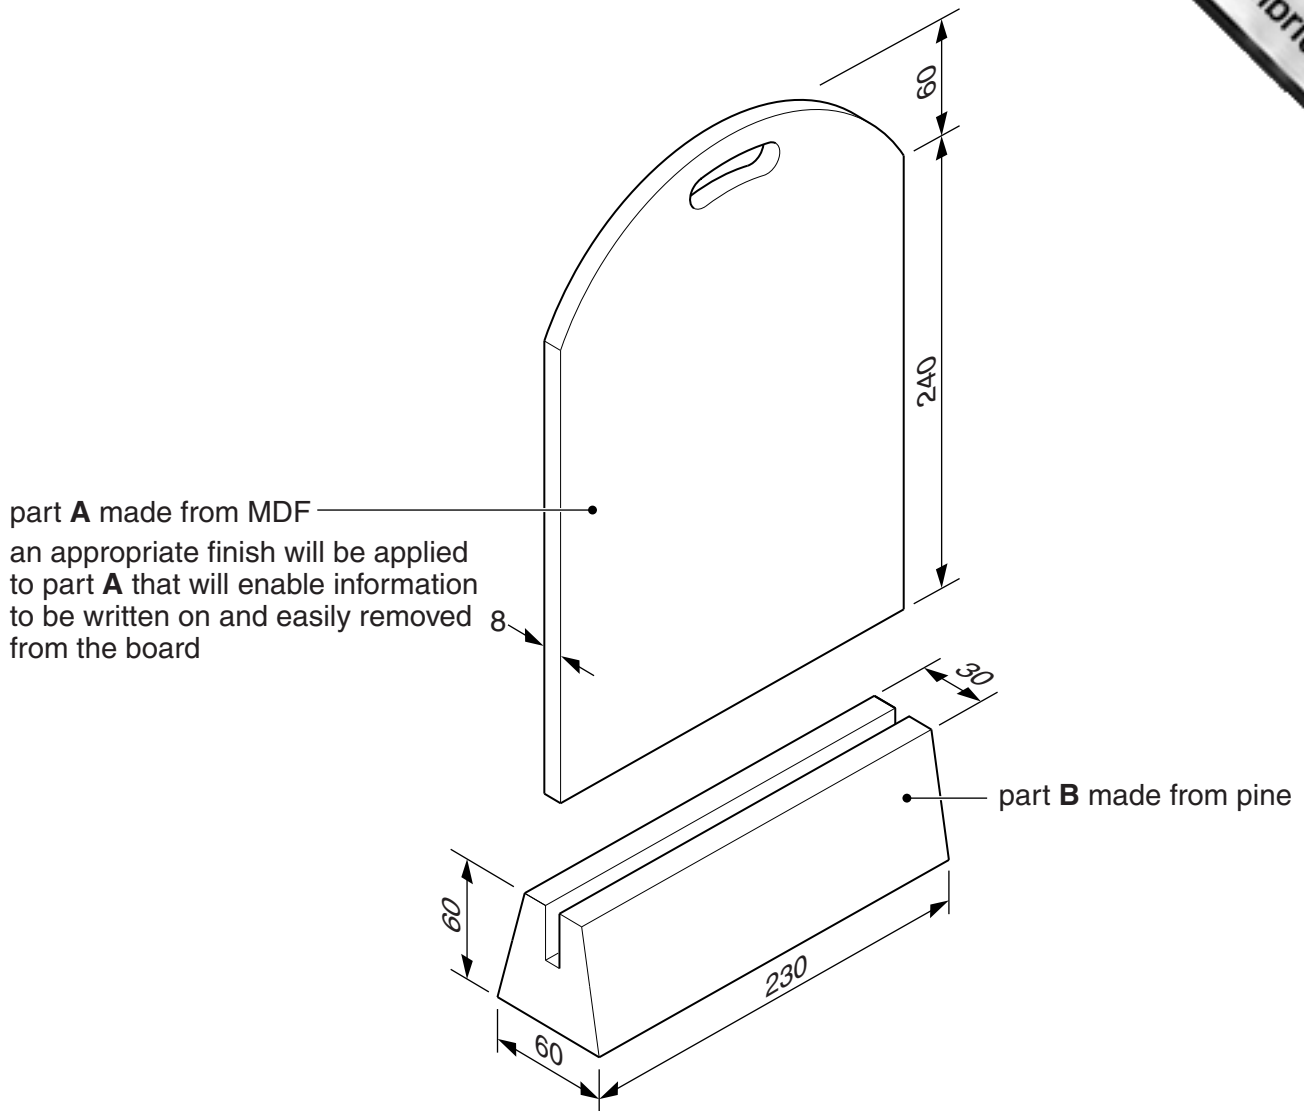

Fig. 3
- 3 Fig. 3 shows a menu board which is to be made in a school workshop.